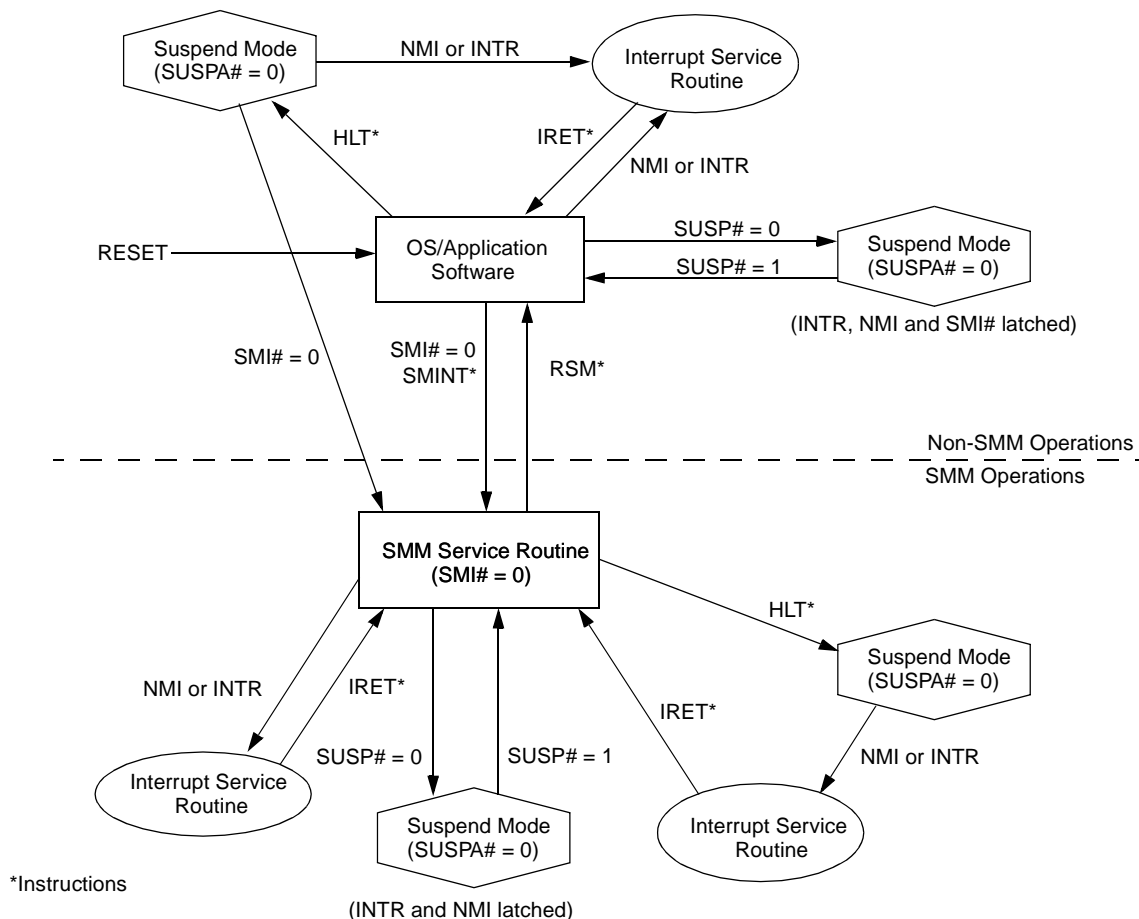

Figure 3-12. SMM and Suspend Mode State Diagram
The state diagram shown in Figure 3-12 illustrates the various CPU states associated with SMM and Suspend mode. While in the SMM service routine, the GX1 processor core can enter Suspend mode either by (1) executing a halt (HLT) instruction or (2) by asserting the SUSP# input.